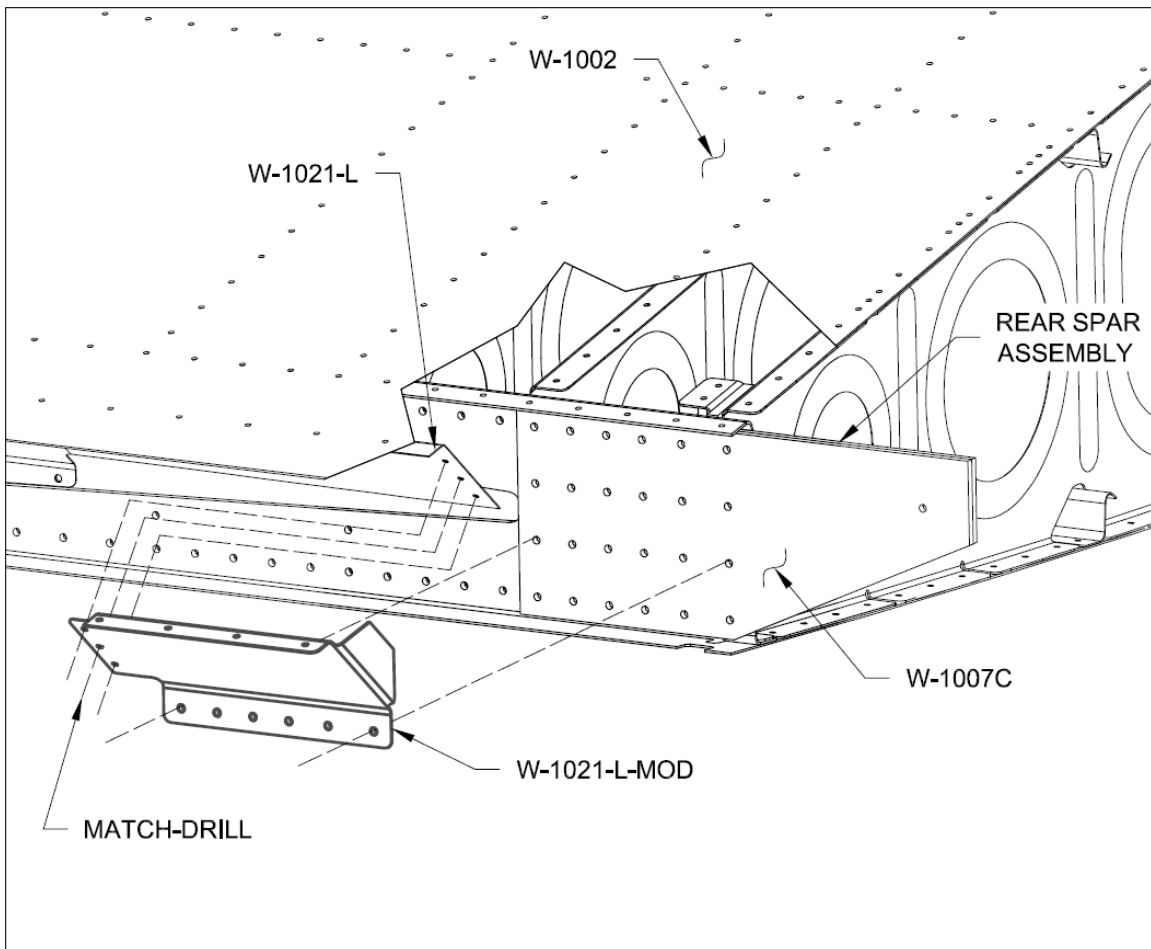

FIGURE 5: MATCH-DRILLING THE W-1021-L
Step 17: Dimple the #40 holes in the top flange, and the #30 holes in the bottom flange of the W-1021-L-MOD, allowing it to nest flush with the W-1002 and W-1007C. See Figure 5.
Step 18: Cleco the W-1021-L-Mod to the W-1007C, and W-1002 as shown in Figure 5. The top flanges of the W-1021-L-MOD and W-1021-L must not interfere with each other when clecoed. Trim away interference of the flanges as required.
Step 19: Match-Drill #30 the three holes from the W-1021-L-Mod into the W-1021-L as shown in Figure 5.